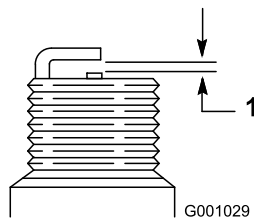

Figure 56
4. Set the gap between the electrodes on a new spark plug at 0.76 mm (0.030 inch) as shown in Figure 56.